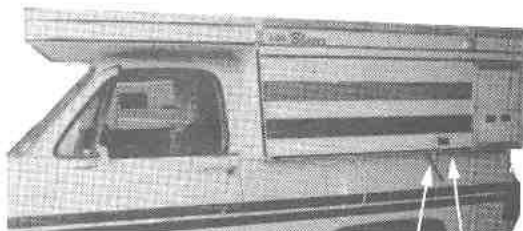
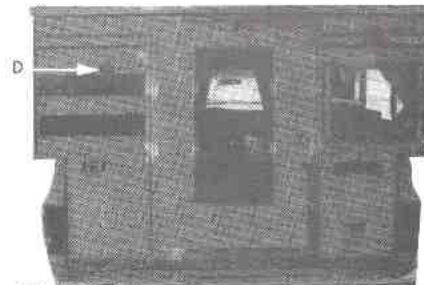

FIGURE 1
FIGURE 2
Located toward the rear of the camper on the left side is a black tube (Fig. 1-B) extending down from under the ledge. This is an overflow tube for your water storage tank. As you fill the tank through the cup (Fig. 2-D) on the left side at the rear of the unit, water will come out the overflow tube (Fig. 1-B) when the tank has been filled to capacity.
The only winter protection required for the water system is to thoroughly drain the system. This is easily accomplished simply by opening the drain valve (Fig. 1) (C) under the ledge on the left side of the camper.
At the left/rear of the camper is a door to the gas compartment (Fig. 1-E) inside is a 20 lb. (5 gal.) L.P. tank and regulator. The gas system in all Four Wheel Campers are designed to operate with liquid petroleum gas only. **DO NOT AT ANY TIME PUT NATURAL GAS IN THE SYSTEM.**